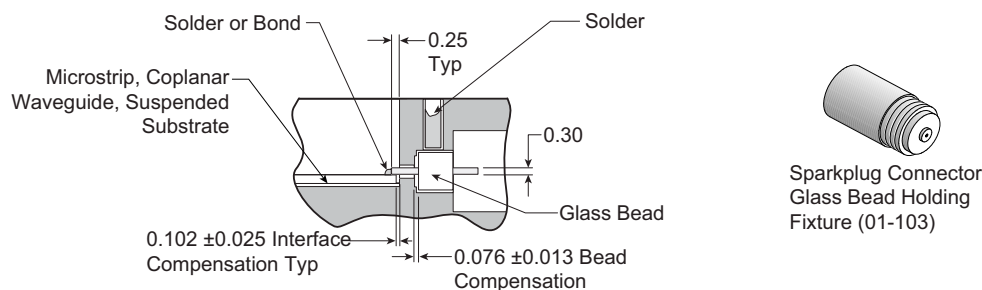

Figure 4-3. K102F-R or EK102F-R Glass Bead Assembly
1. Install the microstrip into the housing (see Figure 4-3 for dimensional tolerances around the glass bead).
3. Apply flux to the glass bead and insert it, long-end first, into the 01-103 Glass Bead Holding Fixture (Figure 4-3).